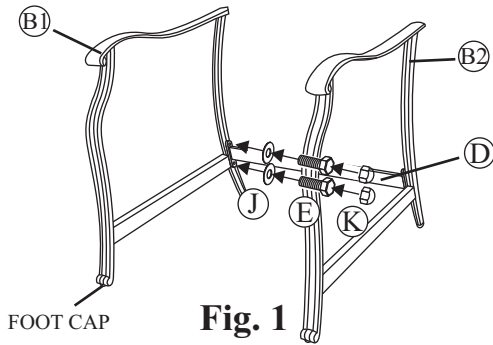

Fig. 1
Step 2: Attach the leg support to the chair legs (B1 & B2) by using the 1/4"x20 mm bolts and washers as shown in Fig.1. Guide these bolts through the holes in the leg support, into pre-drilled holes in the chair legs. **Hand tighten only.**